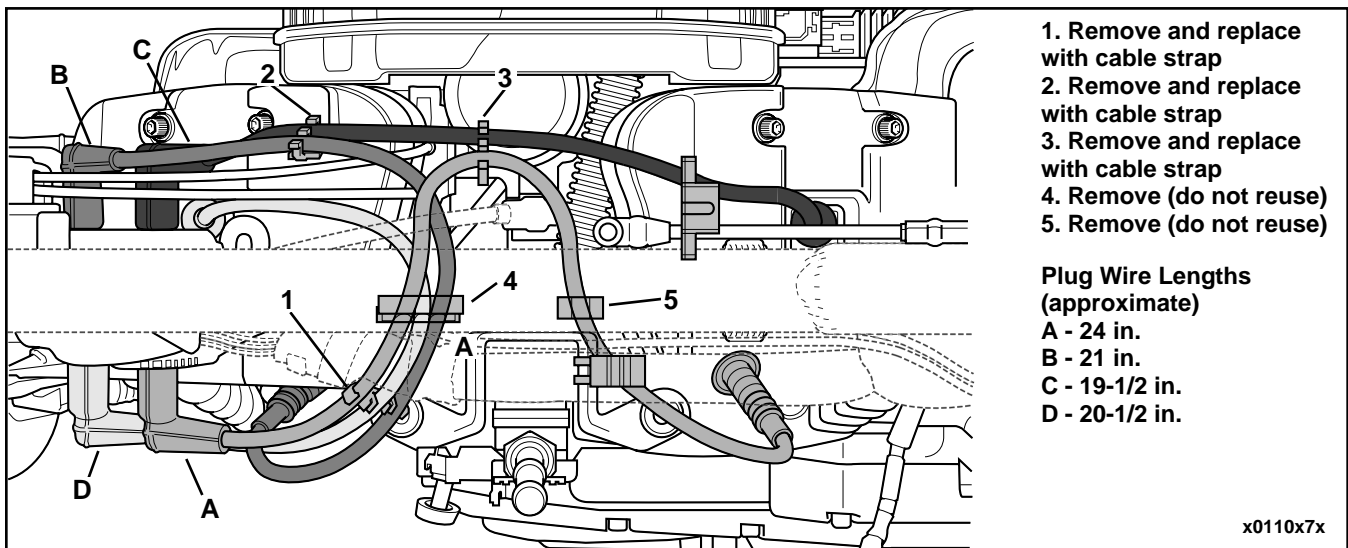

Figure 6. XL1200S Spark Plug Locations
2. See Figure 6 for spark plug wire routing. Remove spark plug wire clips indicated. These clips will be replaced with cable straps included in kit after wires are installed.
3. Follow routing shown in Figure 6 and install spark plug wires. Make sure boots are seated firmly on plugs and into the coil towers.
4. Install cable straps at positions indicated in Figure 6.